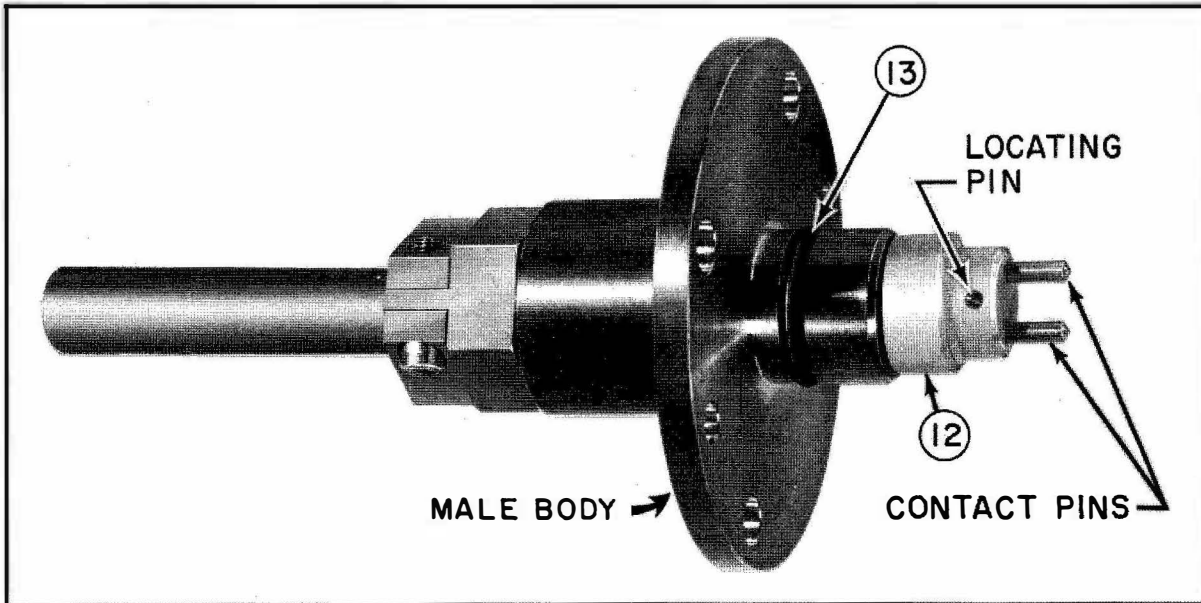

Figure 5-11e. Male Contact Insulator Installed
Step 6. - Place male contact insulator, piece 12, over the contact pins. When the contact insulator is installed correctly, it should be flat against the male body. Lubricate O-ring, piece 13, with insulating compound and install in outside groove on male body (see figure 5-11e).